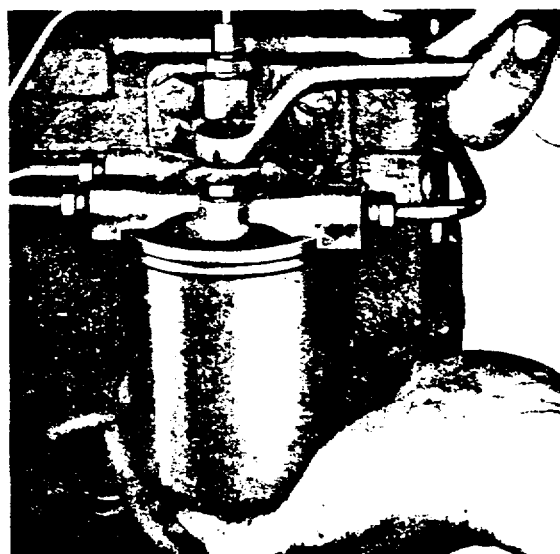

Fig. N.1.
2. Unscrew the bolt in the centre of the filter top cover (see Fig. N.1).